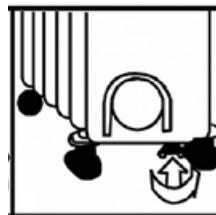

Fig. 4
4. Fasten the yoke using a winged nut (Fig. 4) in order to stabilize the unit and prevent it from turning over.